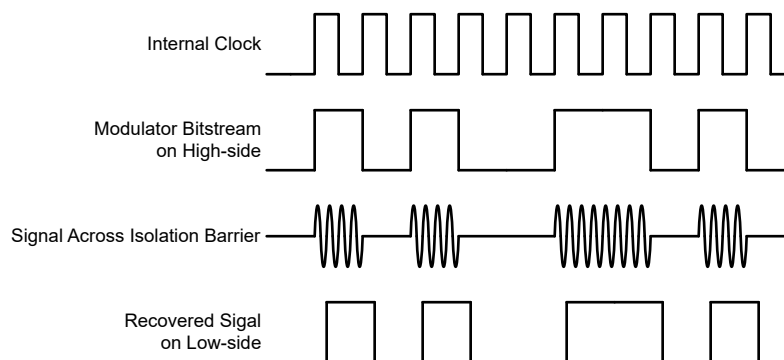

Figure 7-1. OOK-Based Modulation Scheme
As shown in Figure 7-1, the AMC0x00D uses an on-off keying (OOK) modulation scheme to transmit the modulator output bitstream across the SiO₂-based isolation barrier. The transmit driver (TX) is illustrated in the Functional Block Diagram. TX transmits an internally generated, high-frequency carrier across the isolation barrier to represent a digital *one*. However, TX does not send a signal to represent a digital *zero*. The nominal frequency of the carrier used inside the AMC0x00D is 480MHz.